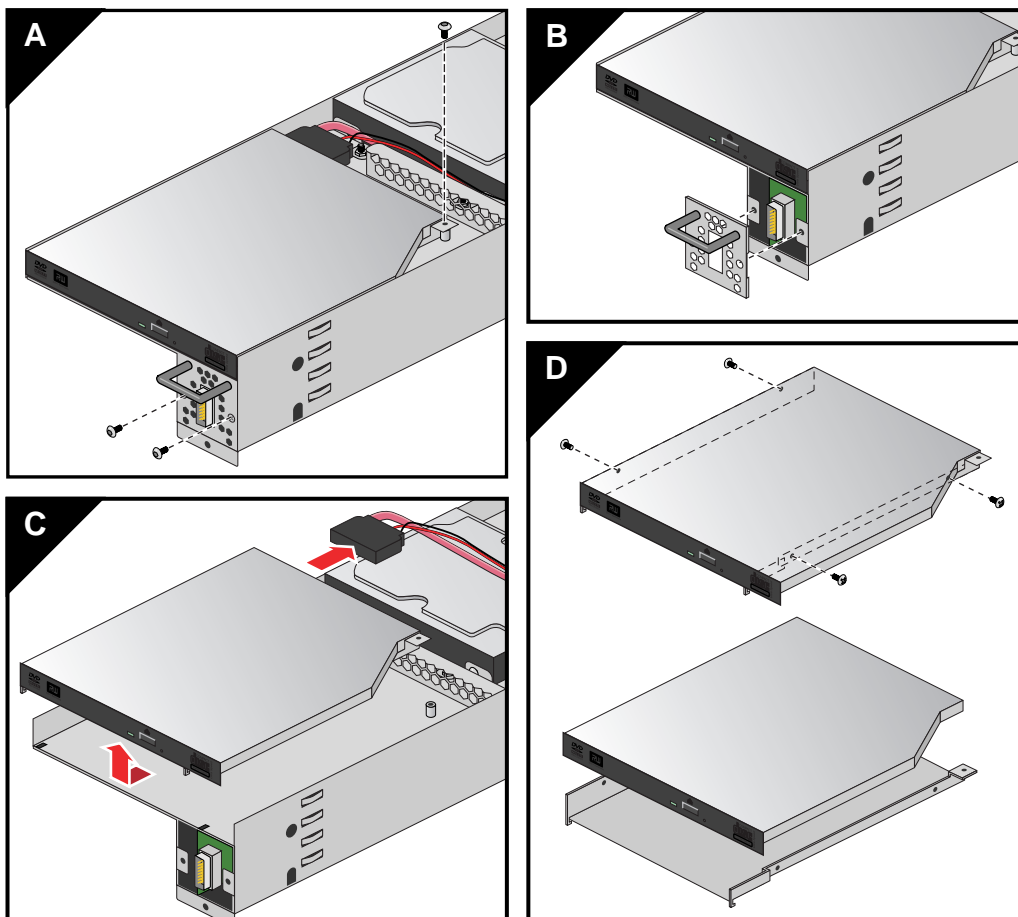

Figure 5-14 Altix UV 100 DVD Removal
9. If replacing an existing DVD drive, unscrew the T10 Torx screw that holds the DVD's "L"-shaped retention bracket in place and set it aside, see Figure 5-14 for an example.